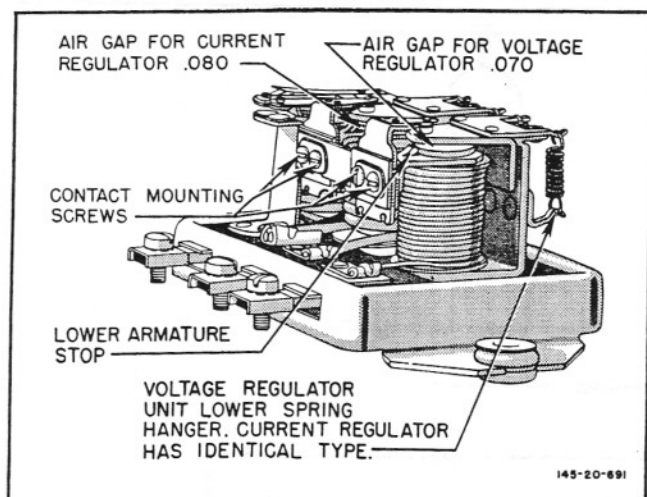

Figure 54 - CURRENT & VOLTAGE REGULATOR RELAY AIR GAP ADJUSTMENTS
Checking and Adjusting Current Regulator Relay—See figure 54.
7. If correct setting cannot be achieved, cut the engine and turn off electrical units; then check the relay air gap in the following manner (figure 54): Push current regulator down all the way by hand, and allow it to come back up until points are just touching; then, with a wire-type feeler gage, measure over the center of the core, for an .080-inch air gap. If setting is incorrect, loosen the two contact mounting screws, and move upper contact support up or down as required.